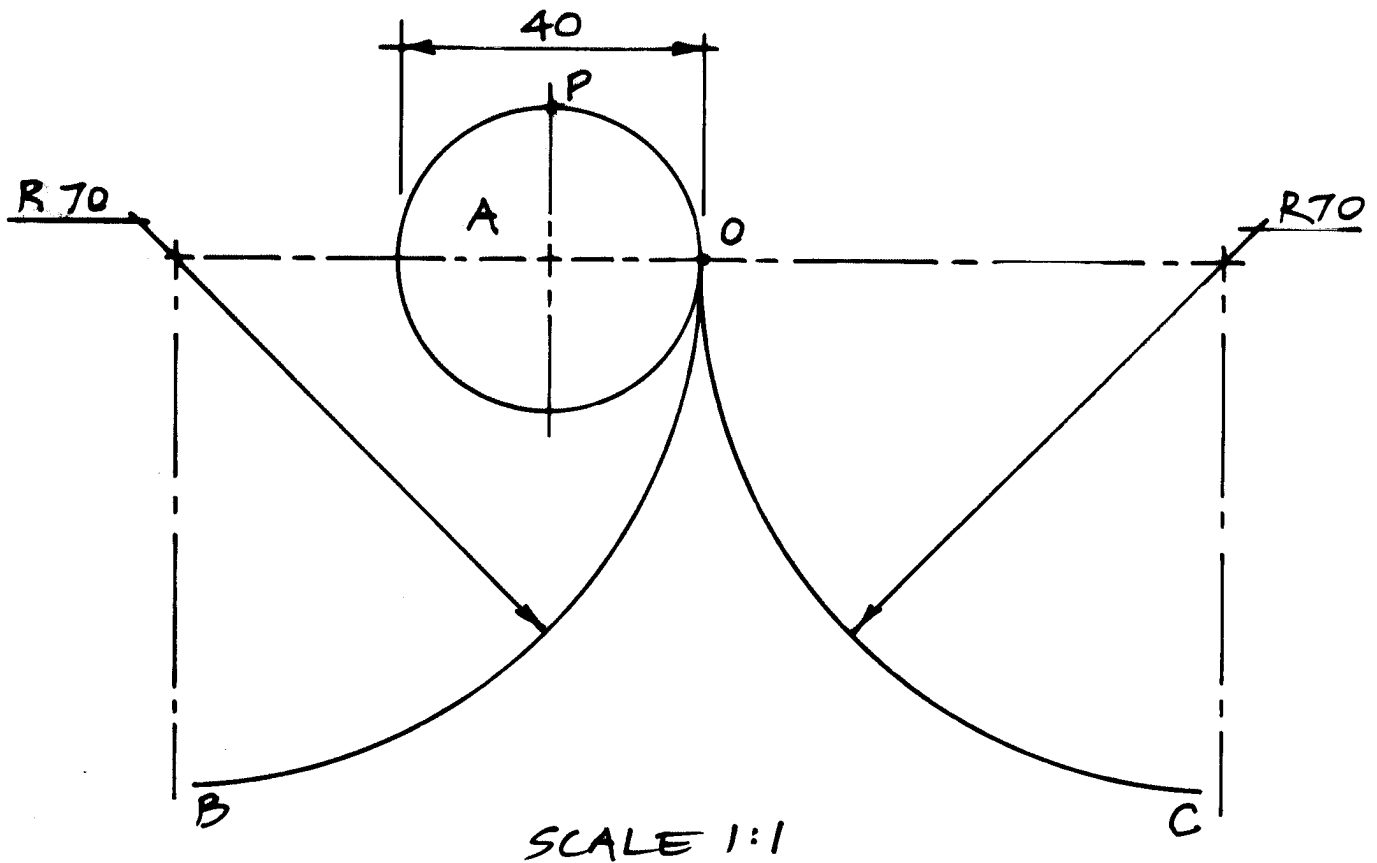

Figure 4
- (a) In Figure 4 the circle A rolls along the arc OB until point P reaches point B. Plot the locus of P for this movement.